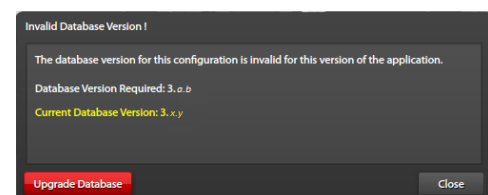

Figure 8. Invalid Database Version
**NOTE:** Opening a file from an earlier version of the E3 Console application opens an INVALID DATABASE VERSION warning screen (see Figure 8). The E3 Console can upgrade the configuration database to the correct version. The versions will change incrementally with the release of new software.